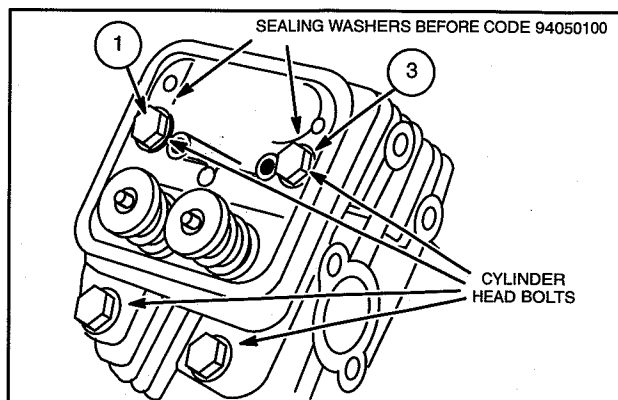

Fig. 7 – Remove Cylinder Head
2. Remove head bolts and cylinder head, Fig. 7.